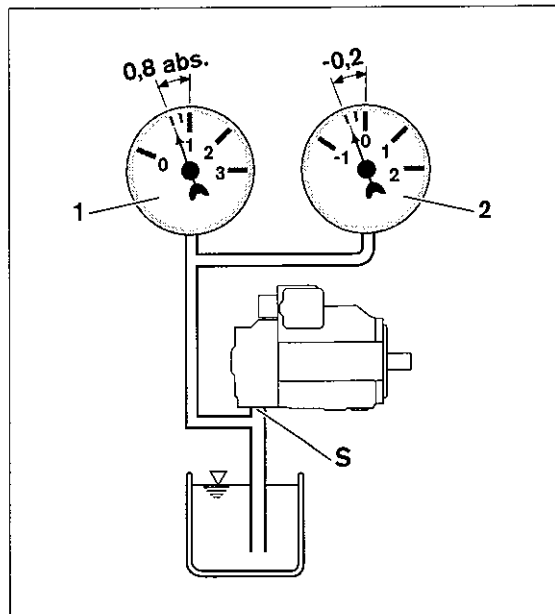

Fig. 21: Suction pressure
- Make certain that a minimum suction pressure of 0.8 bar absolute is present at port "S" during operation and on cold starts in all installation positions and installation locations for the axial piston pump, see Fig. 21. See data sheet for additional values.